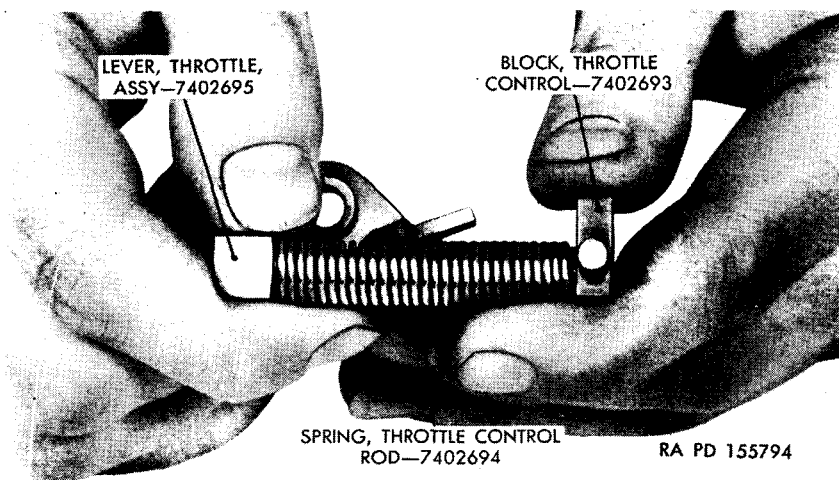

Figure 84. Relationship of loose lever, control spring, and control block.
f. Thread a new throttle-control-rod spring to the throttle lever on one end and to throttle-control block at the other end (fig. 82). First, thread throttle-control-rod spring three turns on both throttle lever and control block; then continue turning spring onto either throttle lever or control block to obtain proper relation (fig. 84) between the swivel block of loose lever and throttle-control block. Assemble complete throttle lever to choke-lever swivel guide rods. The long rod must pass through center of throttle-control spring (figs. 82 and 84) and be secured with a cotter pin. Install this assembly to carburetor body by inserting choke shaft carefully through seal ring in carburetor body at same time sliding throttle lever over end of throttle shaft. Secure throttle lever to exposed end of throttle shaft with retaining washer and cotter pin (fig. 80).